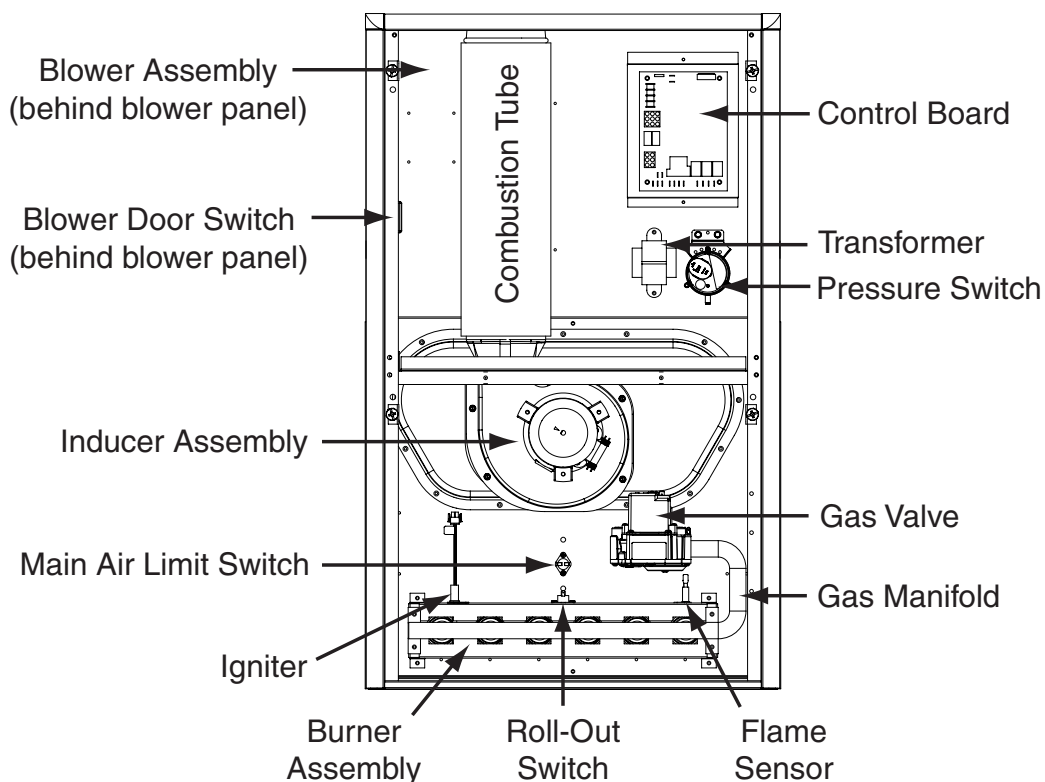

Figure 20. Component Locations
- If the inducer blower is operating and items above have been verified, check the blower limit switch and reset if necessary. See Figure 20, page 29 for component location.
- If the furnace still doesn't operate, check the flame roll-out switch and reset if necessary. See Figure 20 for component location.
The descriptions below are various functional components that affect the operation and shutting down of this furnace. Some of these components and their locations are shown in Figure 20, page 29. If any component of the furnace must be replaced, use only factory authorized replacement parts specified in the Replacement Parts List provided online.